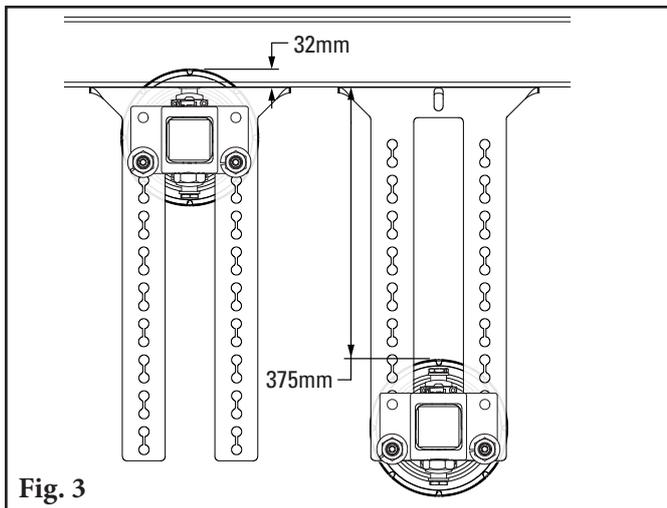

Fig. 3
3. **Position mounting brackets.** May be mounted to existing idler hole patterns. Overall range of adjustment on brackets is 32mm above the top flange or 89mm below the top flange (Fig. 3).
3. **Position mounting brackets.** May be mounted to existing idler hole patterns. Overall range of adjustment on brackets is 32mm above the top flange or 222mm below the top flange (Fig. 3).